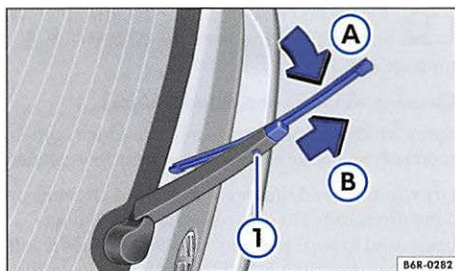

Fig. 159 Changing the rear window wiper blades.
- Press and hold the release button $\Rightarrow$ fig. 159 ①.
- While tilting the wiper blade in the direction of the wiper arm $\Rightarrow$ fig. 159 (arrow A), pull off the wiper blade in the direction of the arrow B. This may require a moderately great force.